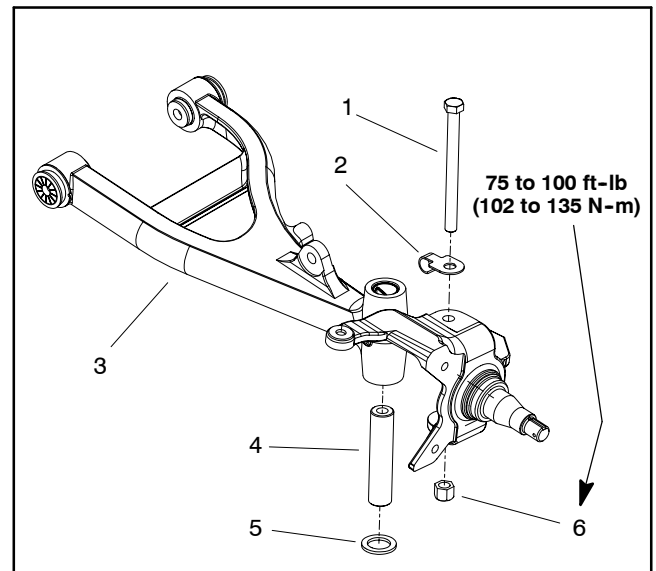

Figure 8
9. Remove spindle (Fig. 8):
1. Install spindle as follows (Fig. 8):